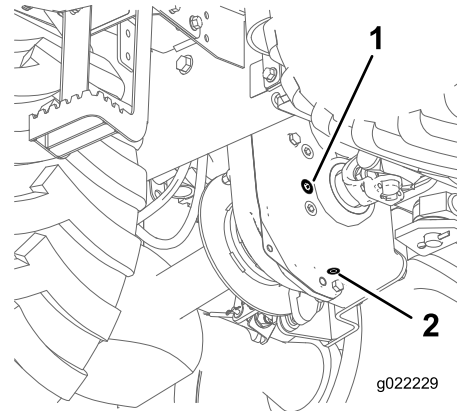

Figure 29
2. Clean the area around the fill plug with a cleaning solvent (Figure 29).